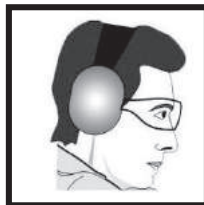

Figure 56. Sight and Hearing Protection
- b. To avoid these hazards, shooters should wear safety glasses made of impact-resistant glass or polycarbonate plastic with side shields (Figure 56). They also guard against firearm malfunctions, stray shotgun pellets or bullet fragments.
- b. Several types of hearing protection are available. On the firing range, shooters should always wear headphone-type hearing protectors (Figure 56). These protectors provide reasonable sound protection. They can also be used for years with minimum maintenance.